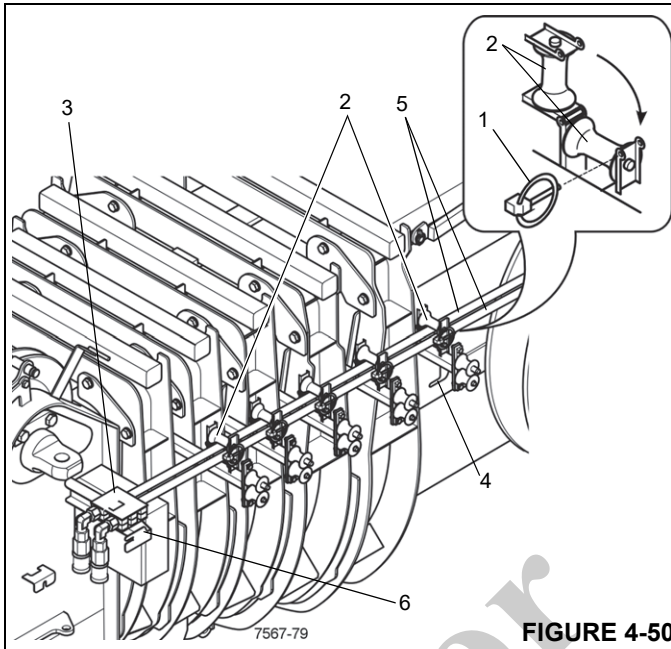

FIGURE 4-50
2. Remove the hinged pins (1) (Figure 4-50) and fold up the guide sheaves (2).
3. Remove the strain relief (3) from its main boom mounting bracket (4) and pull the hydraulic hoses (5) towards the boom nose.
4. Hook the strain relief onto the boom nose mounting bracket (6).
5. Fold down the guide sheaves (2) and secure them with the hinged pins (1).